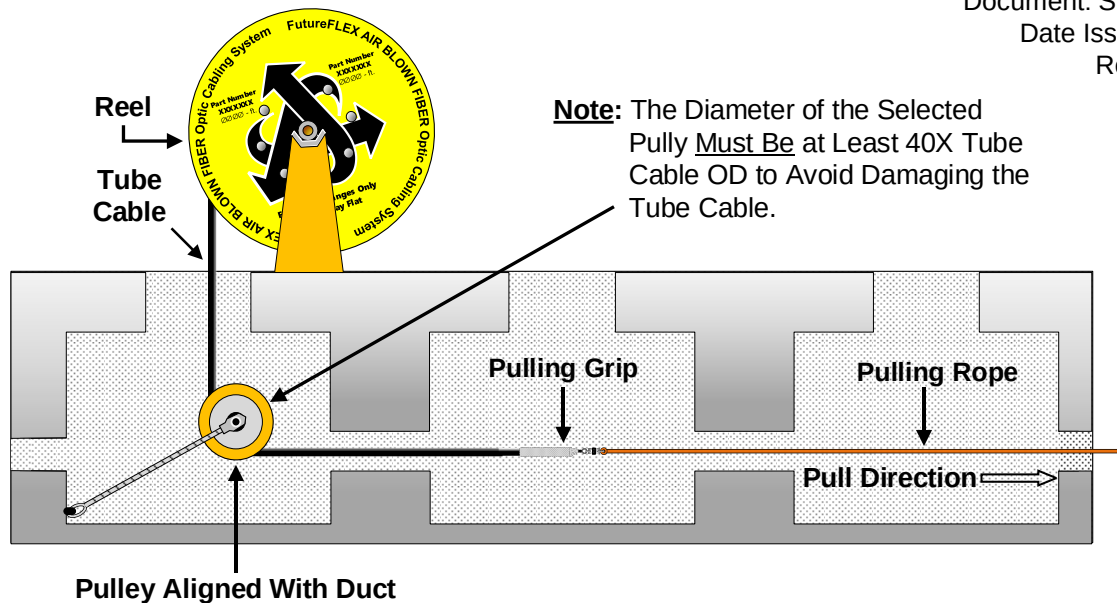

Figure 20
17.1.1 A typical Manual Pulling set-up and operation is shown in **Fig. 20.**